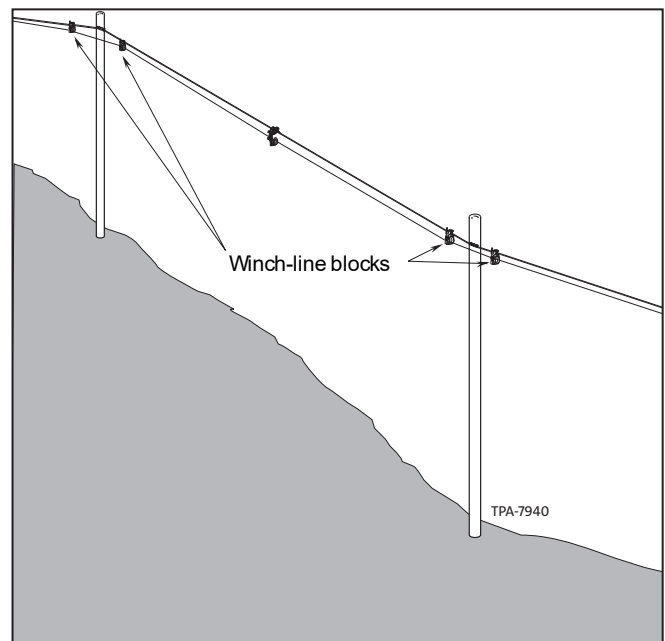

Figure 34 - Winchline block use
6. Prepare the cable route by placing cable blocks at all required points. Install steel winch-line blocks at all heavy corners and stress points (e.g., the top or bottom pole in a section with severe elevation changes) (Figure 34).